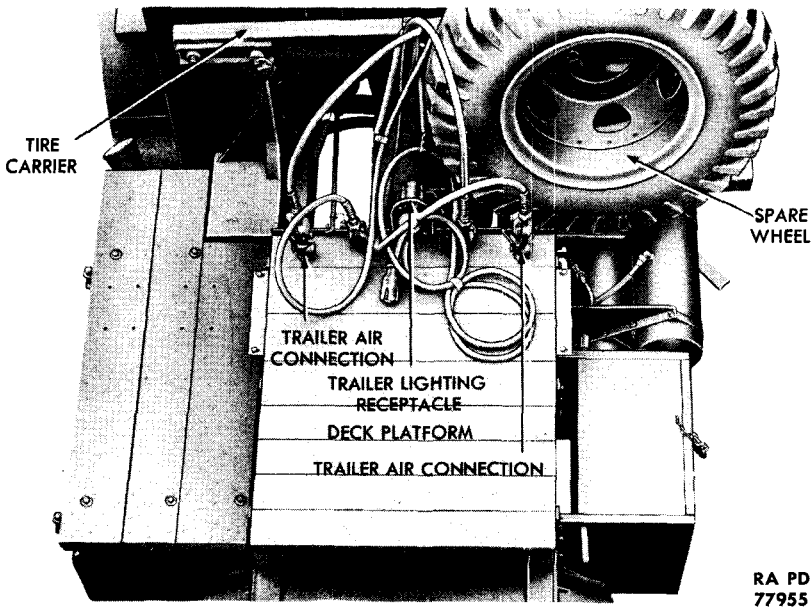

Figure 53 – Trailer Connections and Deck Platform
a. **Remove Spare Wheel (fig. 53).** Unlock padlock. Remove the two nuts, lock washers, and clamp bracket which secure wheel to tire carrier assembly, and remove wheel.
b. **Remove Trailer Lighting Receptacle and Deck Platform Assembly (fig. 53).** Remove the two bolts, nuts, and lock washers which secure trailer lighting cable receptacle bracket to deck platform, and free bracket from deck platform. Detach the two hose couplings, and pull hose free from deck platform. Loosen clamping stud which secures air tubing to semitrailer hose assembly, and pull tube free from assembly. Remove the 12 bolts, nuts, and 24 lock washers which secure frame to deck platform brackets to deck platform. Remove deck platform from vehicle.
l. **Install Deck Platform Assembly and Trailer Lighting Receptacle** (fig. 53). Position deck platform to frame. Secure with the 12 bolts, nuts, and 24 lock washers. Position trailer lighting cable receptacle bracket to deck platform, and secure with the 2 bolts, lock washers, and nuts. Tighten clamping stud which secures air tubing
m. **Install Spare Wheel** (fig. 53). Position wheel to tire carrier. Secure with the two nuts, lock washers, and clamp bracket.